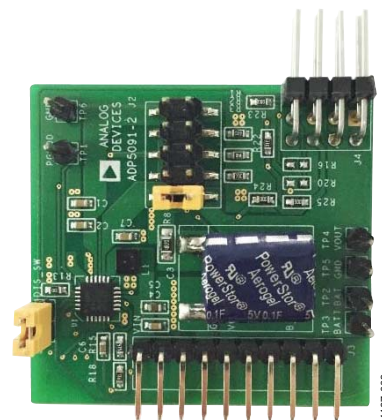

Figure 3. Jumper Setup
2. Connect J2_1 and J2_2 on the evaluation board, as shown in Figure 3.